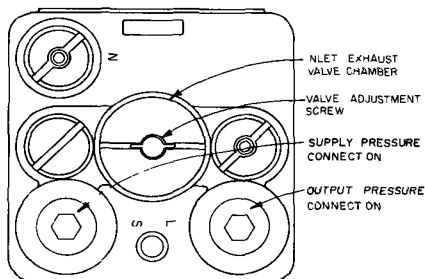

FIGURE 2 - Output and Supply Connections
- a. Turn OFF supply air to Booster Relay and disconnect supply air and output lines from Booster (Figure 2).